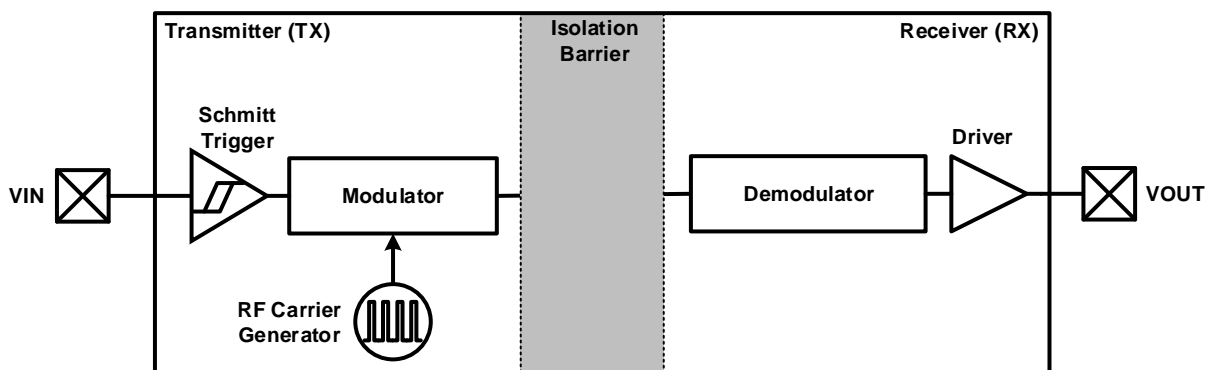
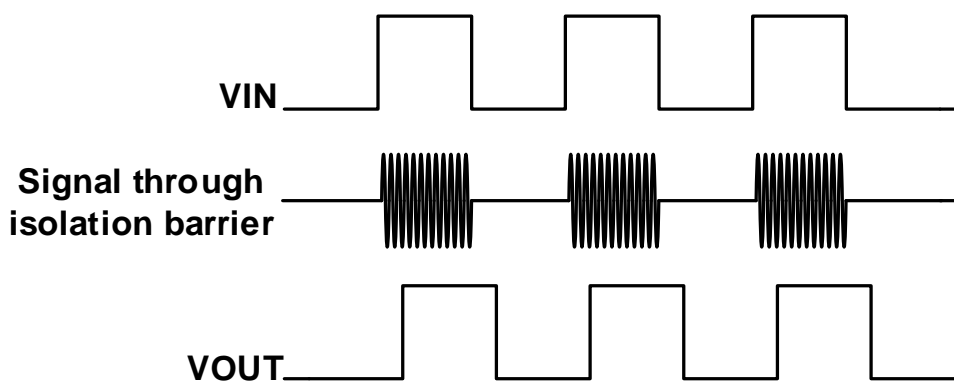

Figure 8-1 Functional Block Diagram of a Single Channel
Figure 8-2 Conceptual Operation Waveforms of a Single Channel
The CA-IS37xx family of devices use a simple ON-OFF keying (OOK) modulation scheme to transmit signal across the SiO₂ isolation capacitors that provide a robust insulation between two different voltage domain and act as a high frequency signal path between the input and the output. The transmitter (TX) modulates the input signal onto the carrier frequency, that is, TX delivers high frequency signal across the isolation barrier in one input state and delivers no signal across the barrier in the other input state. Then the receiver rebuilds the input signal according to the detected in-band energy. This simple architecture offers a robust isolated data path and requires no special considerations or initialization at start-up. The capacitor-based signal path is fully differential to maximize noise immunity, which is also known as common-mode transient immunity. Advanced circuitry techniques are applied for better EMI introduced by the carrier signal and IO switching. The capacitively-coupled architecture provides much higher electromagnetic immunity compared to the inductively-coupled one. And OOK modulation scheme eliminates the missing-pulse error that occurs in the pulse modulation method. A simplified functional block diagram and conceptual operation waveforms of a single channel is shown in Figure 8-1 and Figure 8-2.